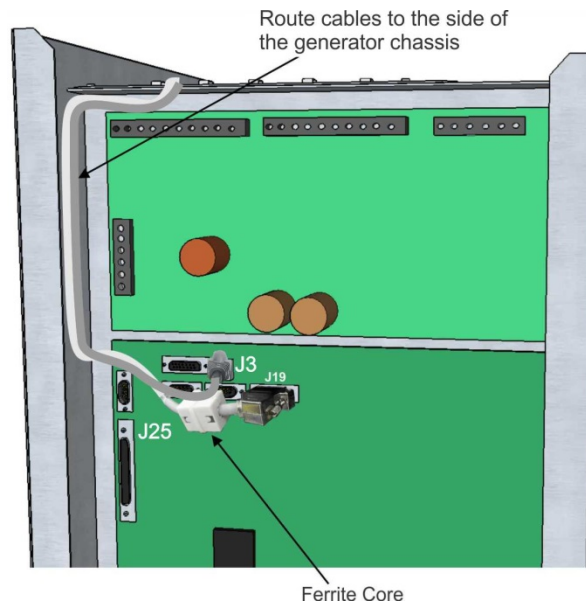

Figure 2-5: Mini Console cable routing
Route the generator end of the console cable into the generator cabinet via the cable access slot nearest to the generator control board. The cable must be routed as per Figure 2-5. Connect the generator end of the console cable to J3 on the generator control board.
8. Route the generator end of the console cable (CPI part number: 90178000) and the digital imaging system cable into the generator cabinet via the cable access slot nearest to the generator control board. The cables must be routed as per Figure 2-5. Connect the generator end of the console cable to J3 and the digital imaging system cable to J25 (if required) on the generator control board.
3. Route the generator end of the mini console cable into the generator cabinet via the cable access slot nearest to the generator control board. The cable must be routed as per Figure 2-5.